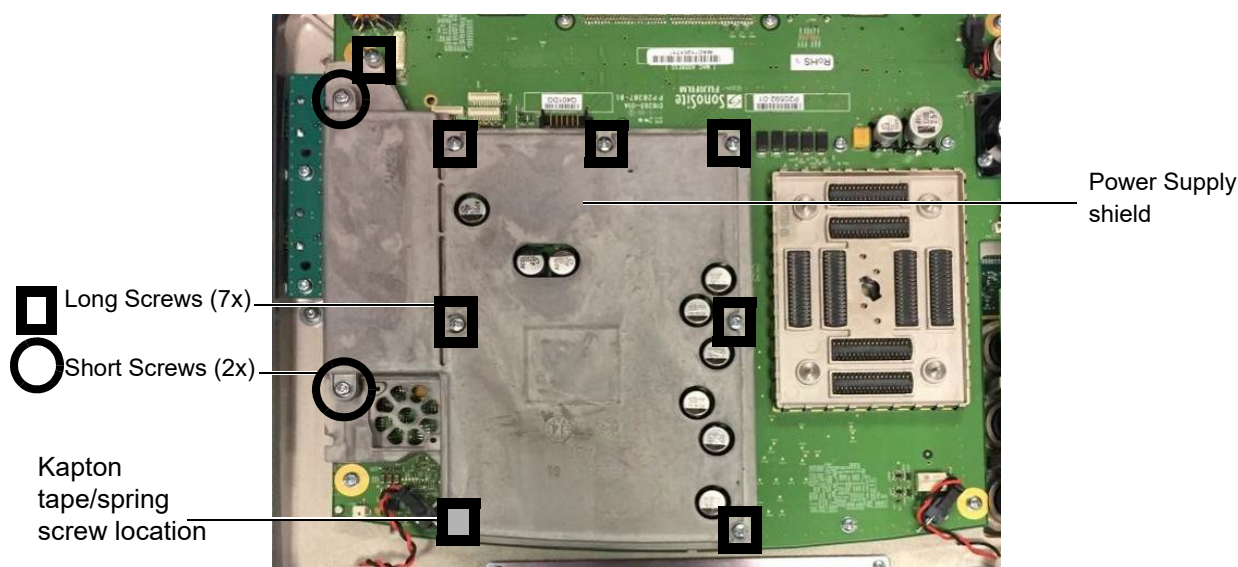

Figure 6.12 Power Supply Shield
- 1 Remove the 7 long screws and 2 short screws holding the Power Supply Shield lid. Please note the location of the 2 short screws. See Figure 6.12. Remove lid and set aside.